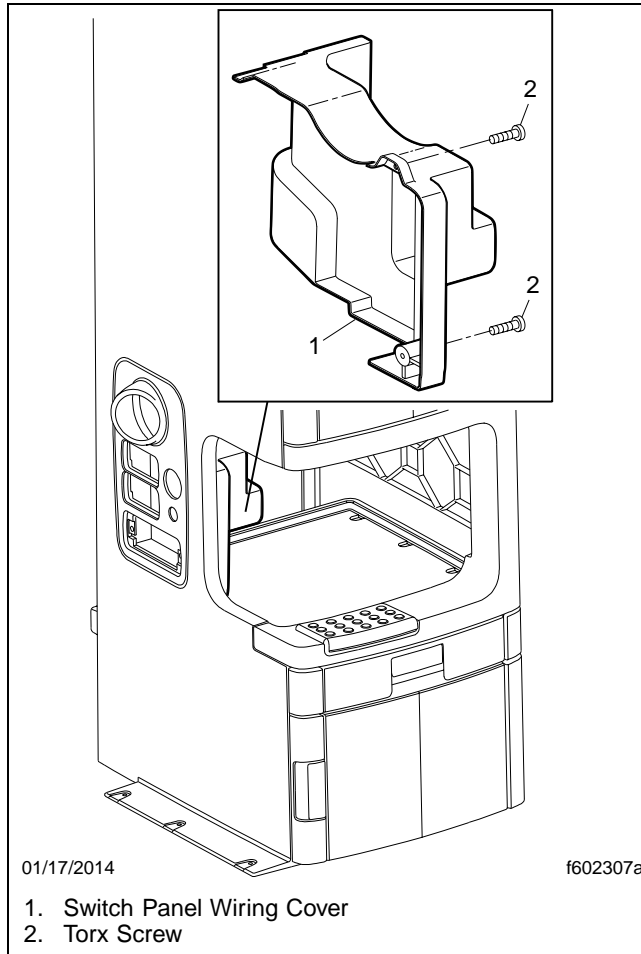

Fig. 15, Sleeper Switch Panel Wiring Cover
4. Remove the sleeper switch panel wiring cover, if so equipped, from inside the cabinet by removing the two Torx screws that attach it to the cabinet assembly. See **Fig. 15**.
12. Attach the sleeper switch panel wiring cover to the inside of the cabinet with two Torx screws. See **Fig. 15**.